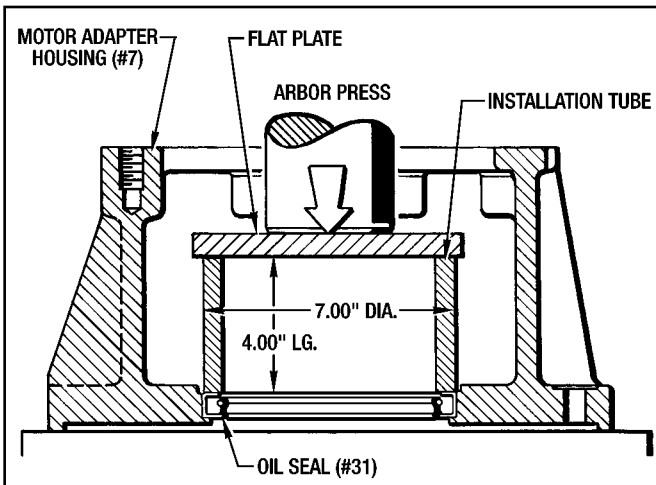

Figure 7.15 - Installing Oil Seal for MSB12
- Press the new Oil Seal (#31) into the bore with an arbor press as shown in *Figure 7.15*.